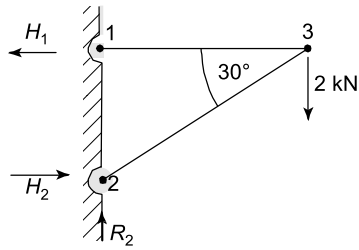

Figure RT4.1
1. Determine the unknown internal forces in the pin-jointed truss of Figure RT4.1.